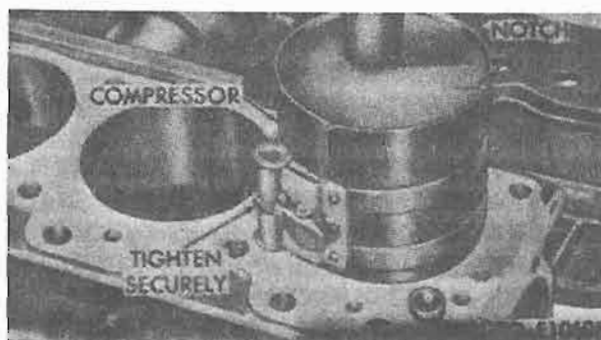

Figure 4-249. Piston installation.
(1) After connecting rod bearings, pistons, piston pins, and piston ring clearances have been checked and found satisfactory with crankshaft and cylinder block to be used and have been subassembled (para 4-63) remove caps and lubricate piston rings, pistons, cylinder walls, crankshaft journals, and bearings with engine oil (OE-10).
(2) Make sure ring gaps are properly spaced around circumference of piston (para 4-63), and that piston is assembled to connecting rod as shown in figure 4-167. Install ring compressor on piston and push piston with rod and upper bearing half in cylinder bore from which it was removed. Tap with a hammer handle until piston is slightly below top of cylinder. Be sure to guide connecting rods to avoid damaging crankshaft journals. Position piston with notch in head toward front of engine (fig. 4-249).